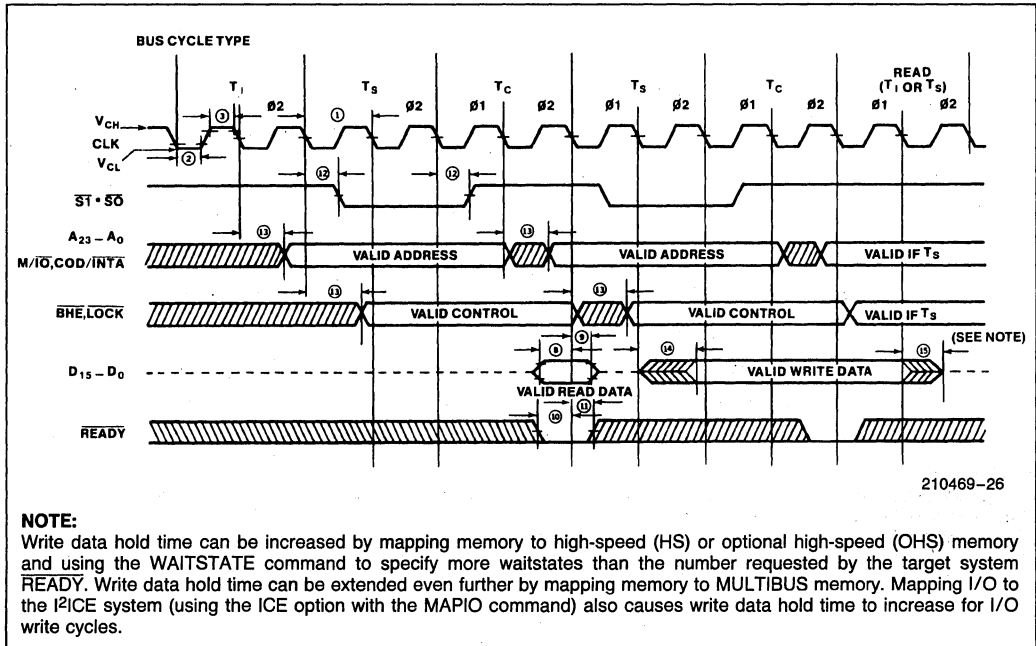

Figure 16
Table 19 provides timing information on the 80286 probe. Figures 16 through 19 define the timing symbols.
1. The symbols t1, t2, t3 ... are references for the circled numbers on Figures 16, 17, 18, 19, and 24. For example to find t14 "Write Data Valid Delay" in Figure 16, look for a circled 14 on the figure.